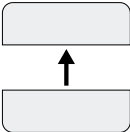
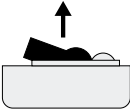

Fig. No. 57
Fig. No. 58
2. Detach the front side of the enclosure by pulling the front side up (see Fig. No. 57)
4. Remove the plastic tab inserted between one of the battery terminals and battery slot contacts (see Fig. No. 58).
- Close EW1B enclosure (see Fig. No. 57, Fig. No. 58)